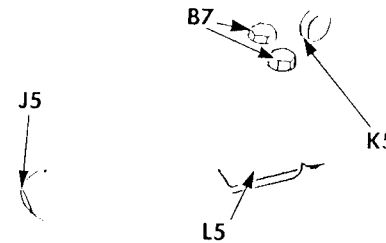

Fig. 20. To Remove the Feed Plate
Should adjustment become necessary, loosen the two screws **B7**, Fig. 20 and adjust forward, backward, to left or right as may be required, then securely tighten the screws **B7**.
Unscrew thumb screw **K5**, Fig. 20 from button clamp, then remove hinge pin **H5**, Fig. 18. Slightly raise presser bar to relieve pressure on clamp, and remove clamp from machine. To replace, reverse the operation, first inserting hinge pin **H5** in either upper or lower pin hole, depending upon whether two-hole or four-hole button is used. See instructions, "TO ADJUST FOR TWO HOLE AND FOUR HOLE BUTTON" on page 18.
When only feed plate or only stay button holder is to be changed, first raise button clamp, then insert fingernail beneath chamfered end **J5**, Fig. 20 of feed plate, or chamfered end **J5**, Fig. 22 of stay button holder, raising it sufficiently so that the end **J5**, can be grasped with
**CAUTION:** Never pry up the spring **L5**, Fig. 20 as this would probably injure the spring or render it useless.